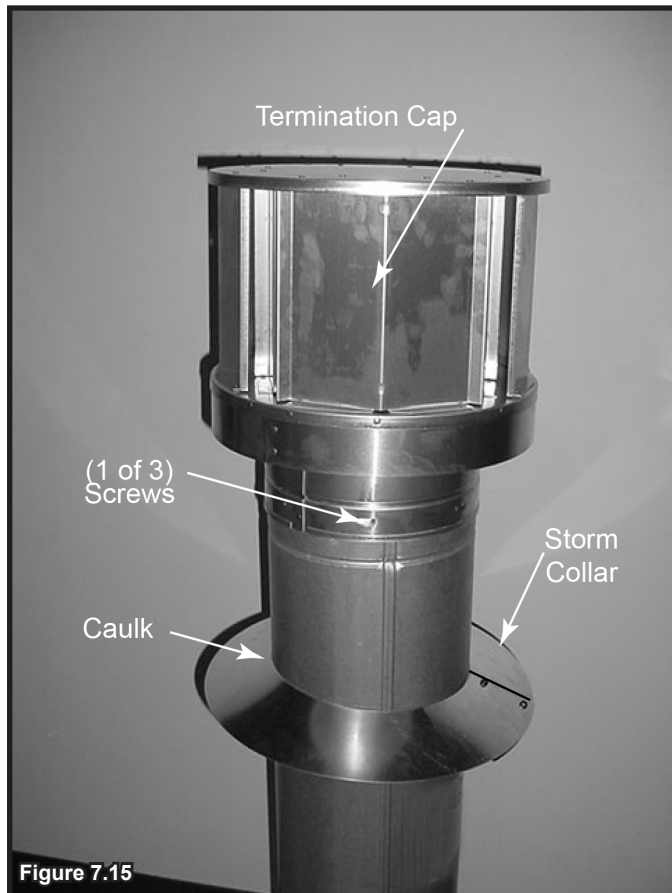

**Figure 7.14 Insert Bolt into Brackets**
- Slide the assembled storm collar down the pipe section until it rests on the roof flashing (see Figure 7.14).